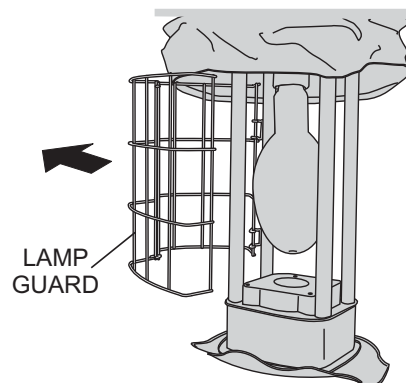

Figure 35. Lamp Guard Removal
6. Remove lamp guard (Figure 35).